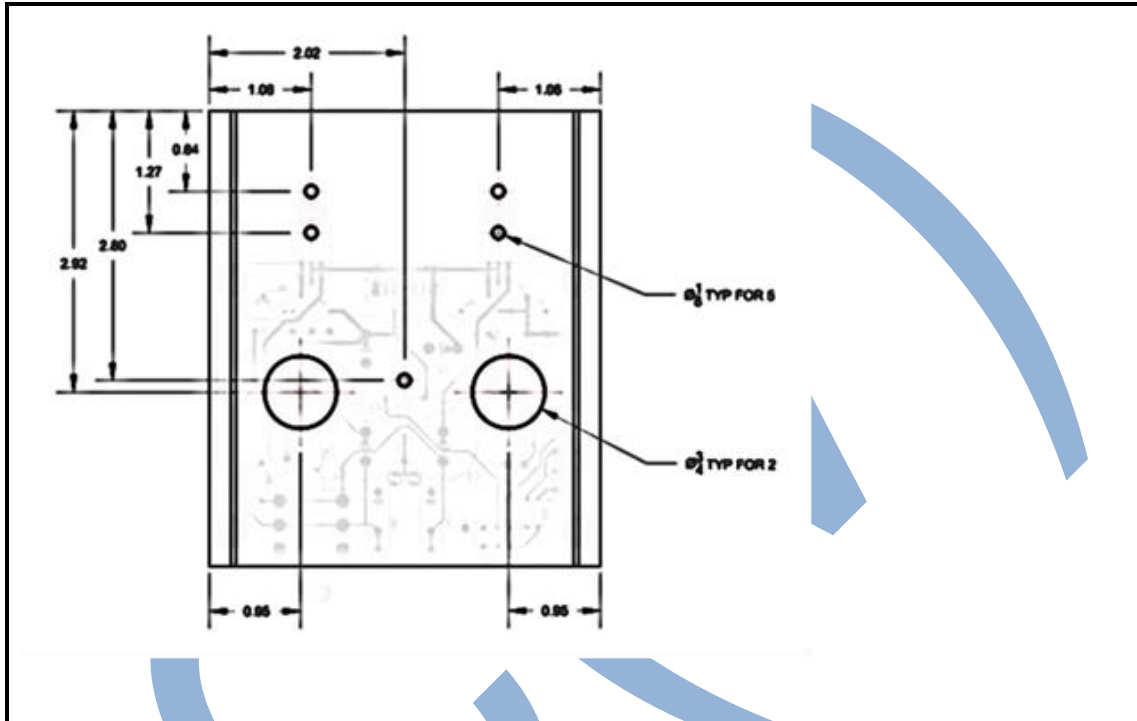

FIGURE 3
6.1 You are required to manufacture the part shown in FIGURE 3 below. Complete the work plan in ADDENDUM A and submit it with your ANSWER BOOK.